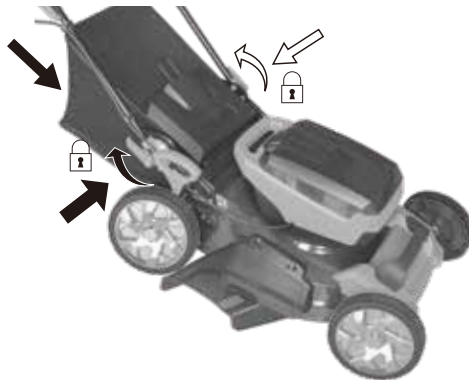

FIG. 1
1. Align the mounting hole of the lower handle bar with the bolt of handle support (Fig. 1).
2. Attach the washer to the bolt and secure the lower handle bar by turning the lever (1) up for tightening.